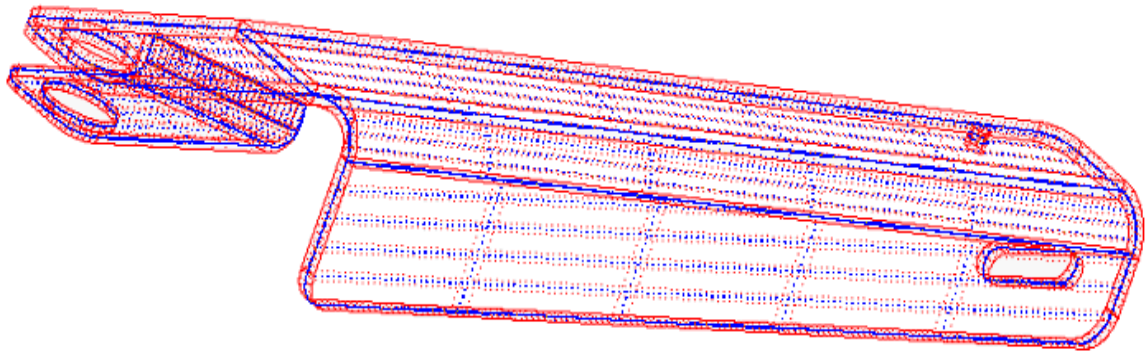

Figure 5.6.14 Middle Surfaces of the Part
6. Middle surfaces of the part are generated from the offset of the top surfaces. They are included in a new part MIDSURF1. Refer to the yellow part in Figure 5.6.14.